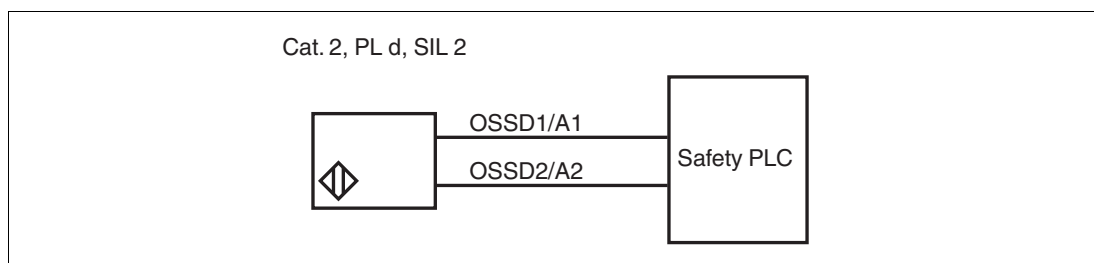

Figure 4.2 Example of a safety loop via the OSSD1 and OSSD2 outputs
- If you are using the sensor in a safety loop for category 2, PL d, SIL 2, connect the sensor via the OSSD1 and OSSD2 outputs, see Figure 4.2. Observe that the OSSD1 and OSSD2 outputs can have different switching states during the discrepancy time, see chapter 3.2. If the difference between the switching states of the outputs occurs longer the discrepancy time, this is to be evaluated as an fault. Take appropriate measures.